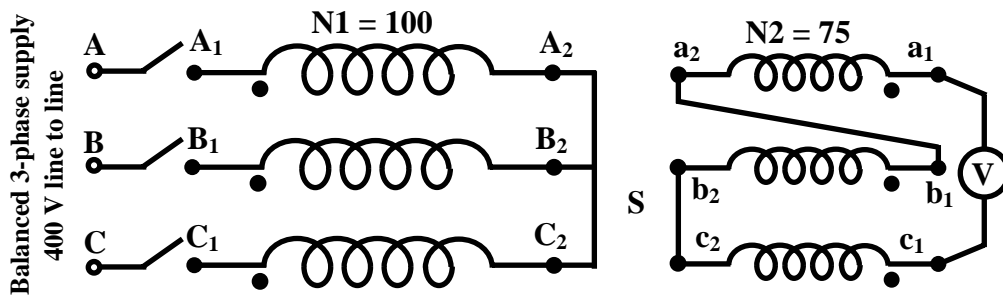

Figure 26.20:
- (A) 173.2 A (B) 200 A (C) 150 A (D) 50 A
- (A) 45 kVA (B) 25.9 kVA (C) 30 kVA (D) 7.5 kVA
8. In figure 26.20 showing an incomplete 3-phase transformer connection, the reading of the voltmeter will be:
- (A) 0 V (B) 173.2 V (C) 346.4 V (D) 300 V